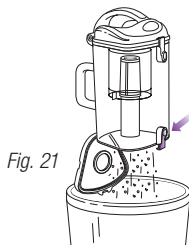

Fig. 21
- Hold the dust cup over a trash receptacle and press the bottom door release button. **(Fig. 21)** Tap gently to empty contents. Press the door shut again until it clicks.